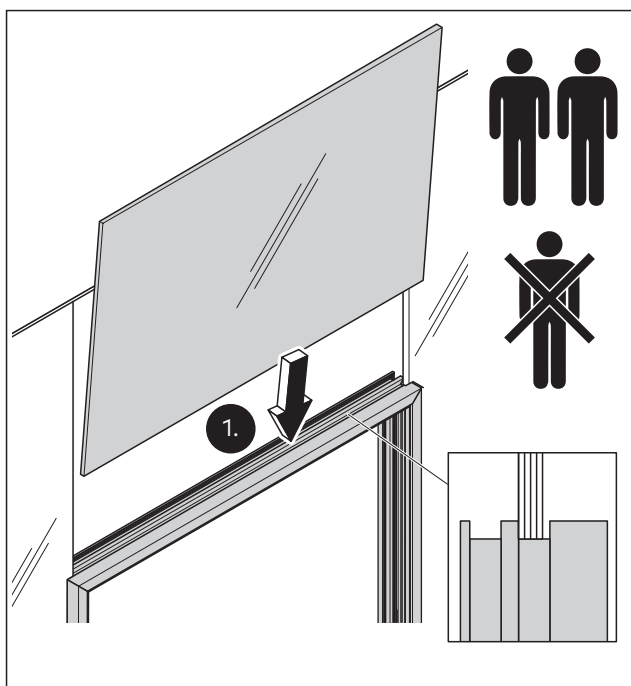

Fig. 27 Place the overpanel on the acoustic element frame
1. Working in a pair, place the overpanel with a vacuum lifting tool on the acoustic element frame (Fig. 27).
2. Ensure the distance between overpanel and side panels with a spacer (Fig. 27).